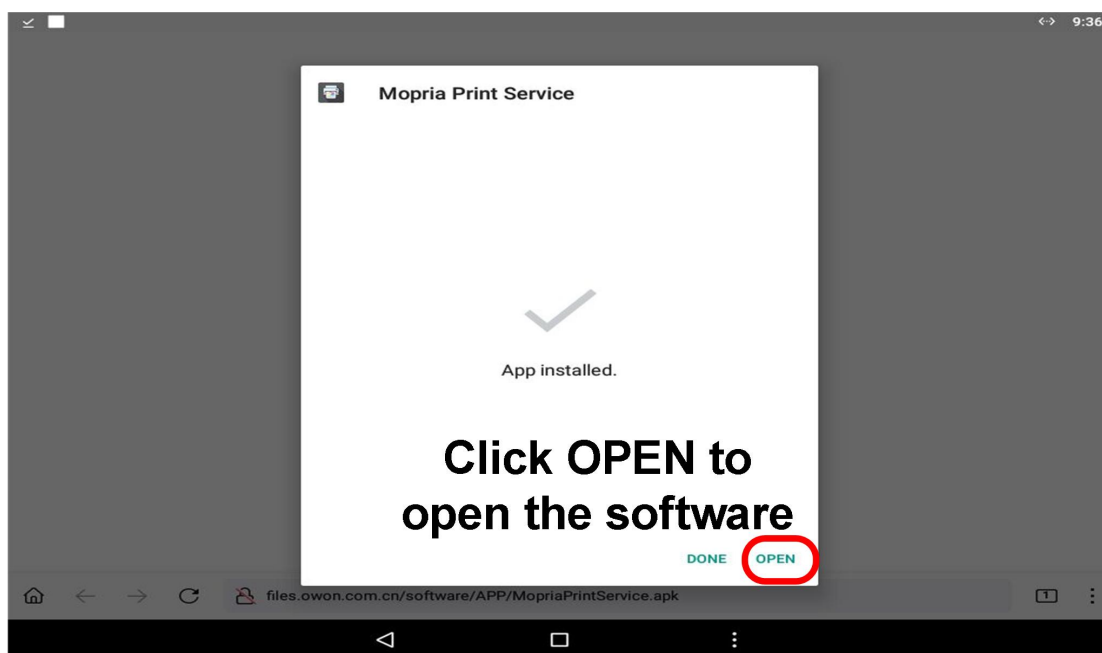

Figure 5
2、 In website install print app, steps as shown in Figure1 to Figure 5.
⑤ After install success, click **OPEN** can open print app. As shown in Figure 5.